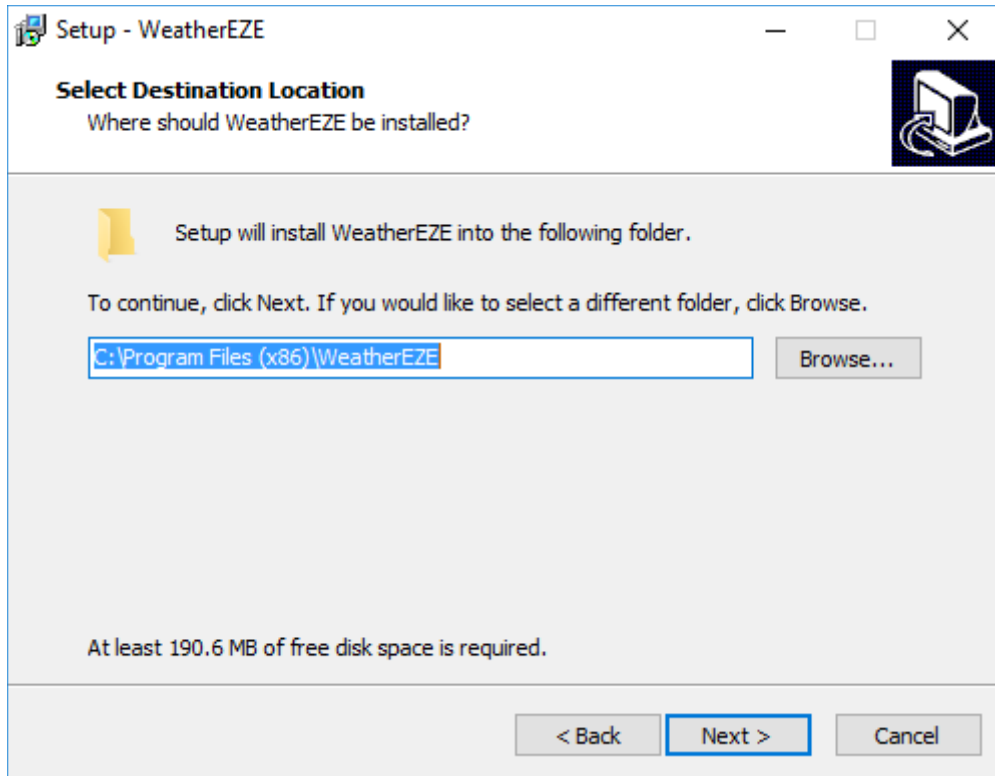

*Figure 2 License Agreements*
2. After setup.exe is executed (manually or automatically), you will see a few windows relating to the licensing agreements (Figure 2 License Agreements). Click “accept” and then next to pass these screens.